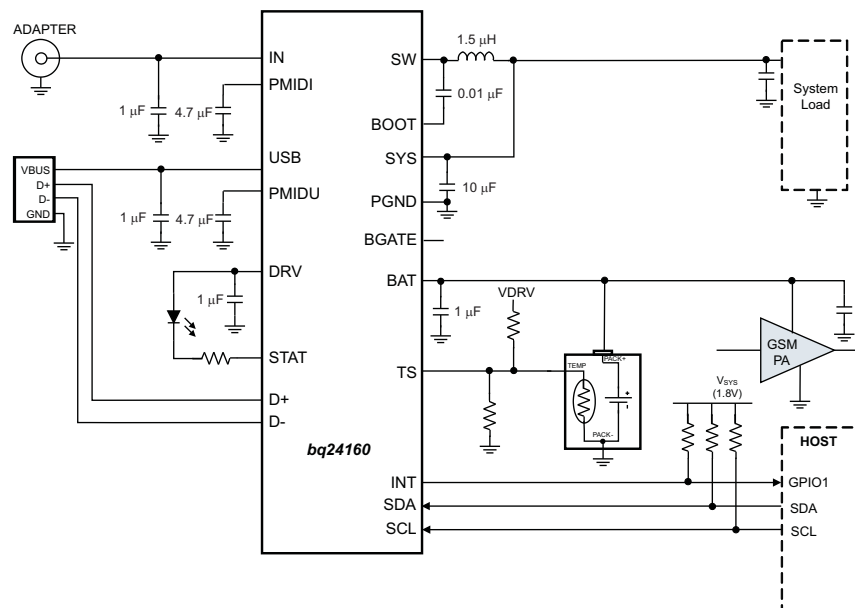
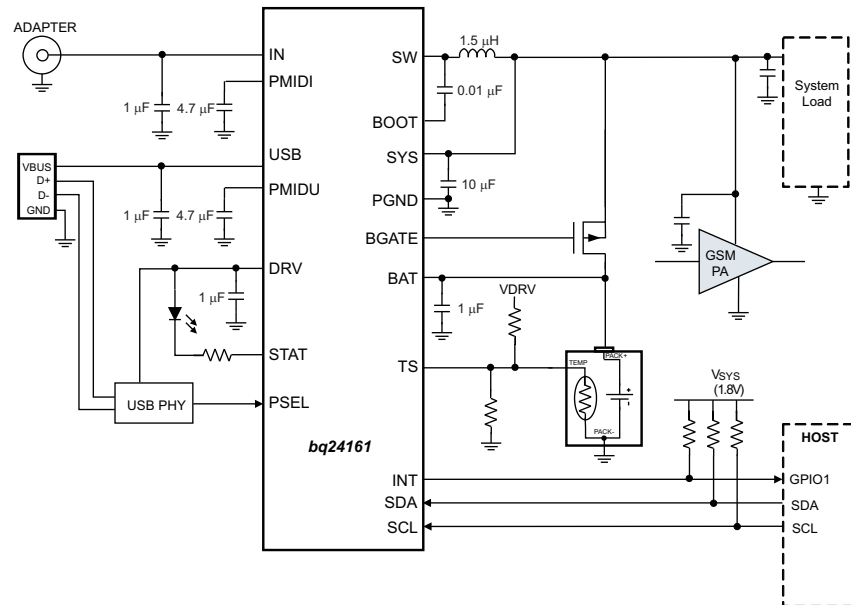

Figure 21. bq24160, Shown with no External Discharge FET, PA Connected to Battery
Figure 22. bq24161, Shown with External Discharge FET, PA Connected to System for GSM Call Support with a Deeply Discharged or No Battery
A typical application circuit using the bq24160 with a smartphone's GSM power amplifier (PA) powered directly from the battery is shown in Figure 21. A typical application circuit using the bq24161 with a smartphone's GSM PA powered from the SYS rail, to allow for calls even with a deeply discharged battery, is shown in Figure 22. Each circuit shows the minimum capacitance requirements for each pin and typical recommended inductance value of 1.5 μ H. The TS resistor divider for configuring the TS function for the battery's specific thermistor can be computed from equations Equation 1 and Equation 2. The resistor on STAT is sized per the LED current requirements. All other configuration settings for VINDPM, input current limit, charge current and charge voltage are made in EEPROM registers using I2C commands. Options for sizing the inductor outside the 1.5 μ H recommended value and additional SYS pin capacitance are explained in the next section.